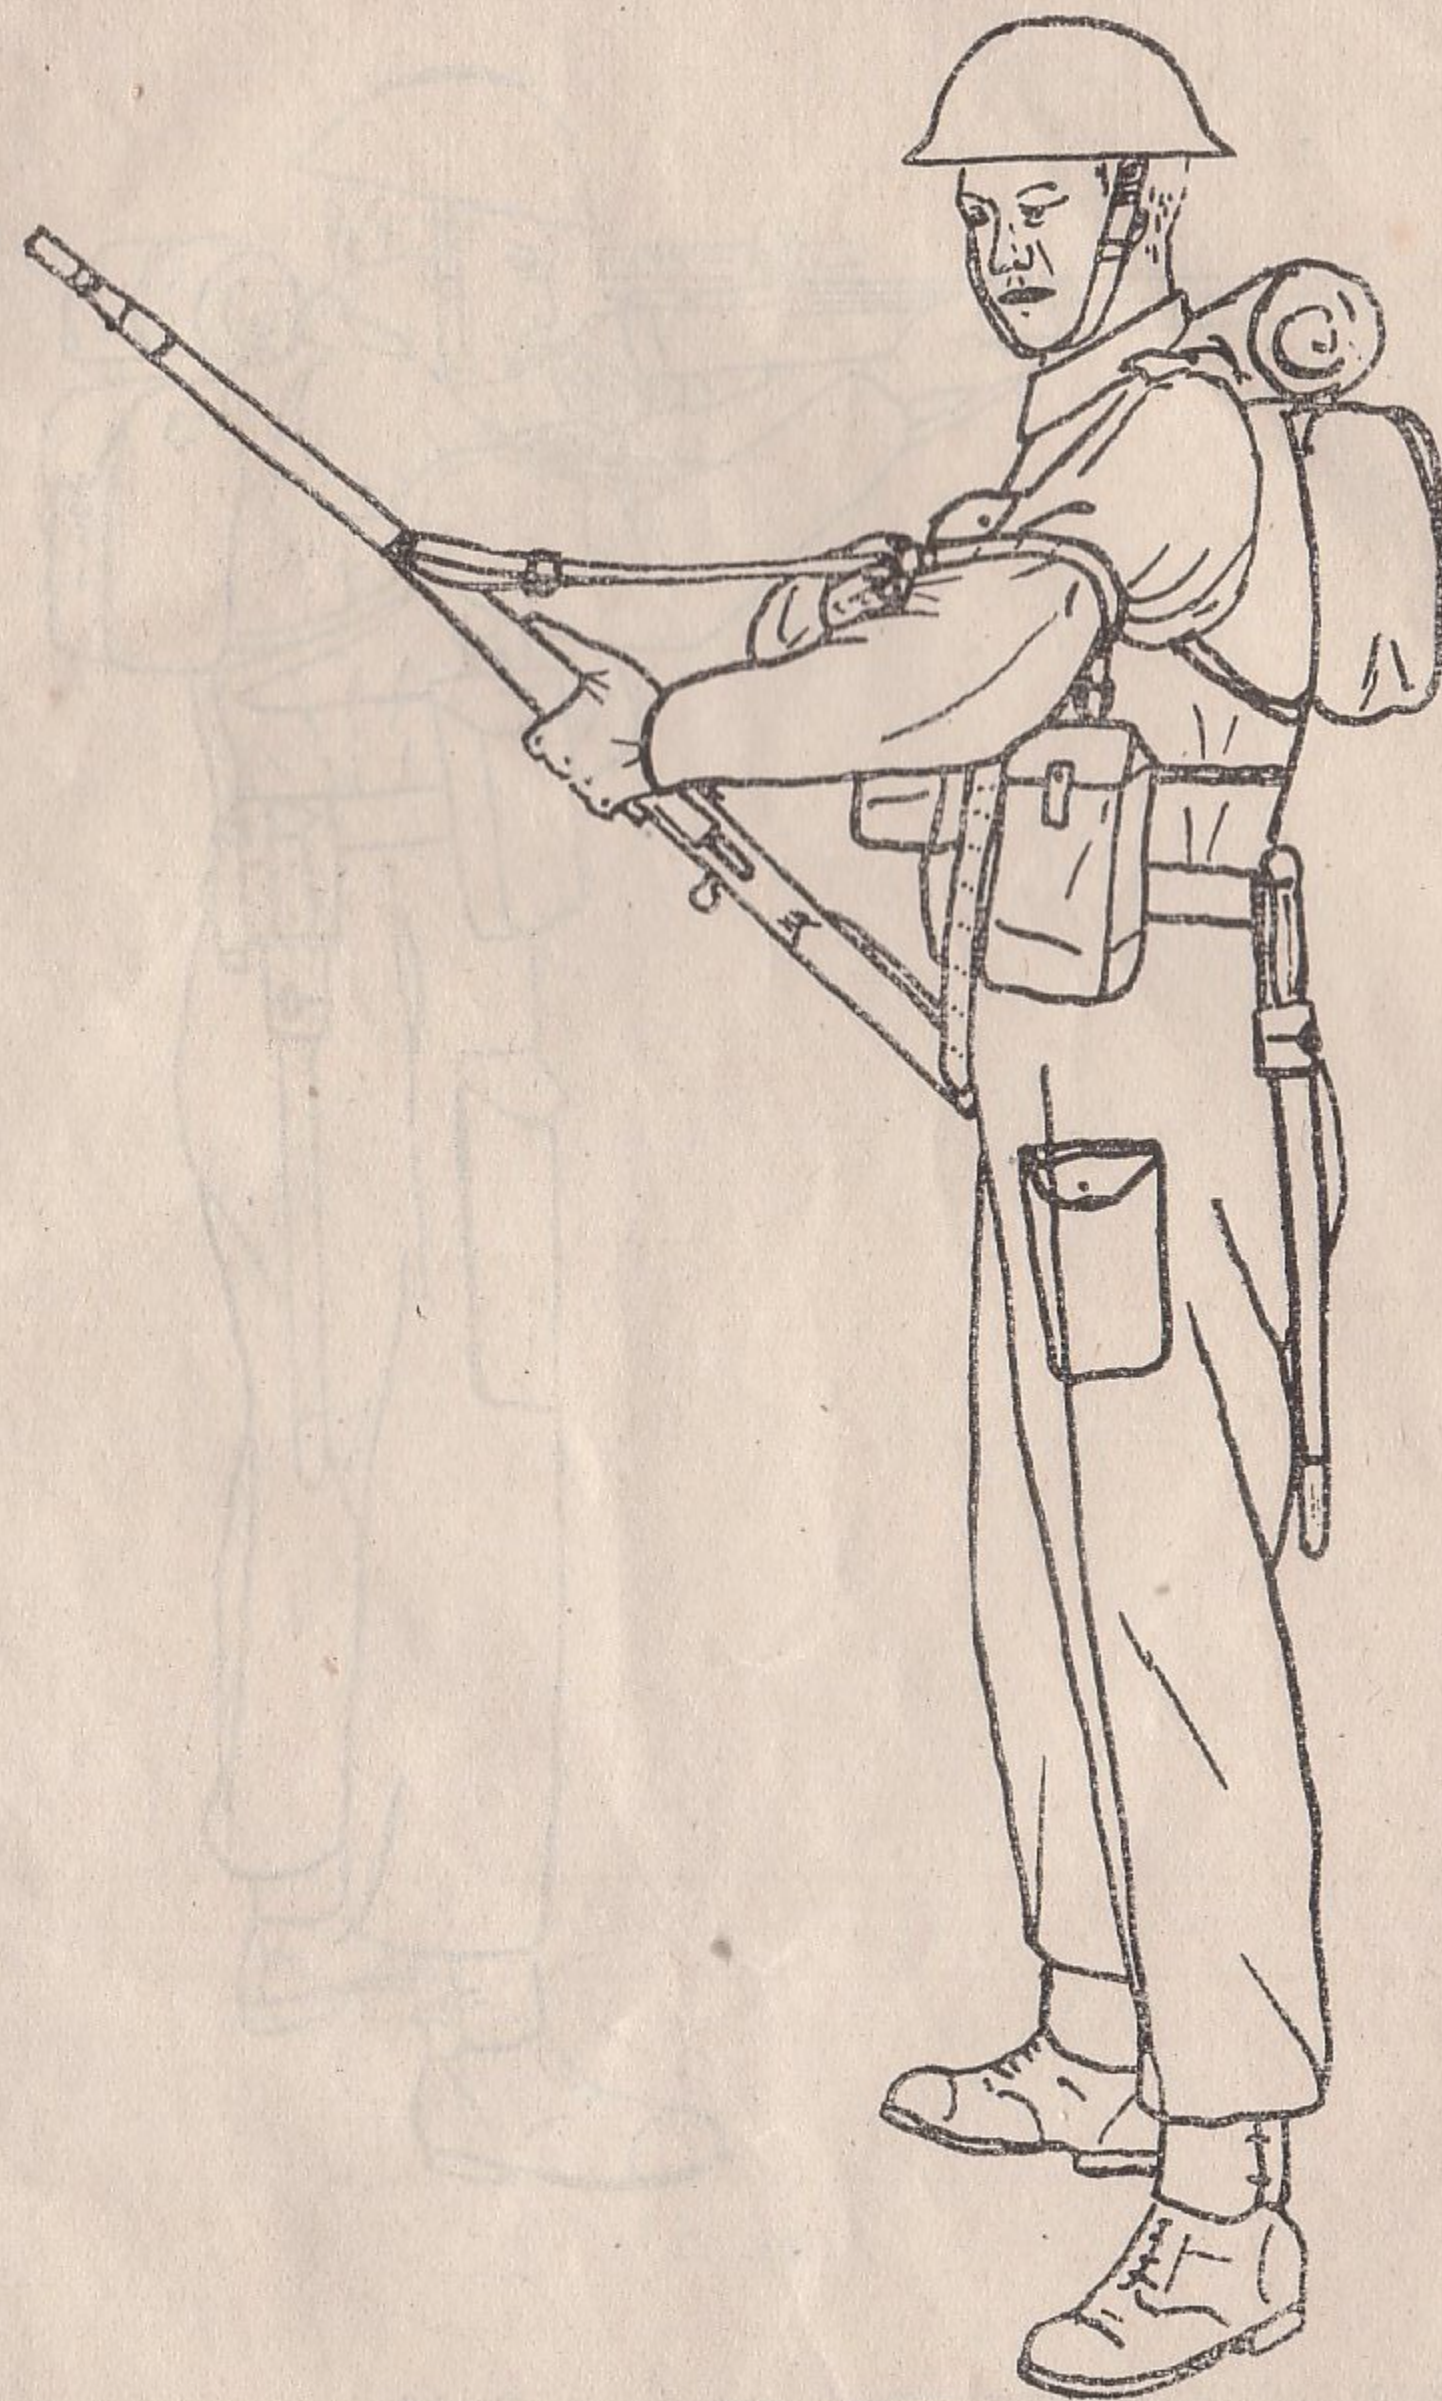

Fig. 20
- iii. Pull the keeper (Fig. 20) close against the arm to keep the upper loop in place.